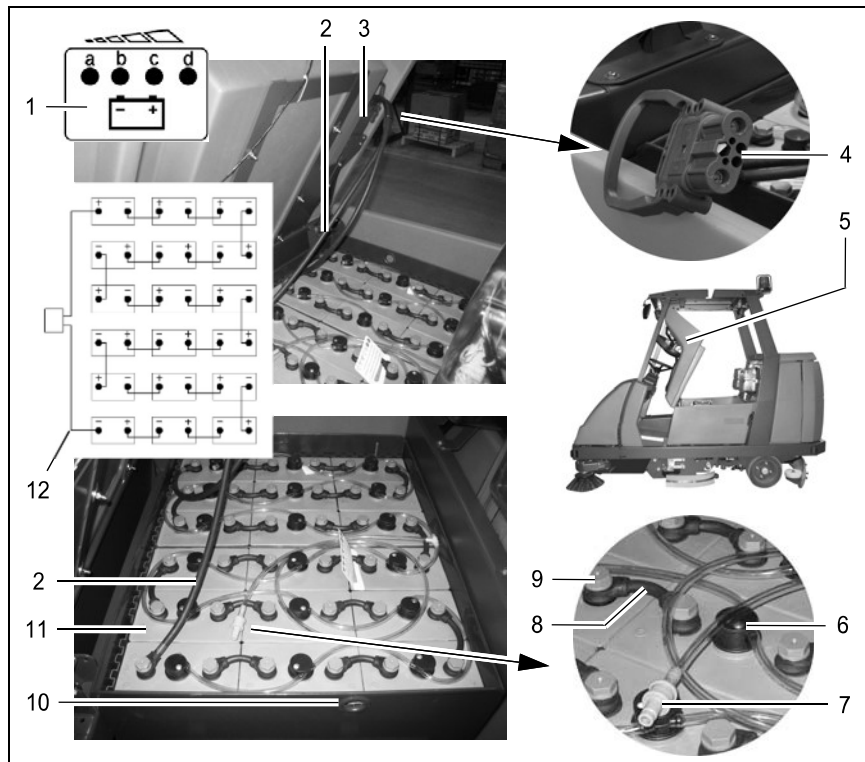

Fig. 25
The seat console (Fig. 25/5) must be open during the battery charging process to prevent the development of explosive oxyhydrogen!
We recommend charging the battery when at least one dot of the battery indicator has gone out after operating the machine. The indicator (Fig. 25/1) also indicates the charge status of the batteries during the charging process.
- Connect the battery plug (Fig. 25/4) to the battery charger supplied.
The battery cells are provided with fill level indicators (Fig. 25/6) which ensure the correct height of electrolyte is maintained: The white point must be clearly visible at the top. If this is not the case, distilled water must be refilled.
Topping up the battery is completed via the connection coupling, the aquamatic plug (Fig. 25/7), which is then connected to the water filling device. This is not part of the scope of delivery.